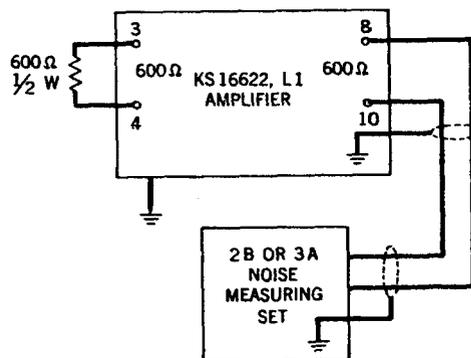

Fig. 3 - Test Setup for Noise Test
6.01 The noise test should be made in accordance with the test setup shown in Fig. 3. The procedure is outlined in Chart II. **FLAT WEIGHTING** should be used with the 2B or 3A Noise Measuring Set.
2	Connect circuit as shown in Fig. 3.